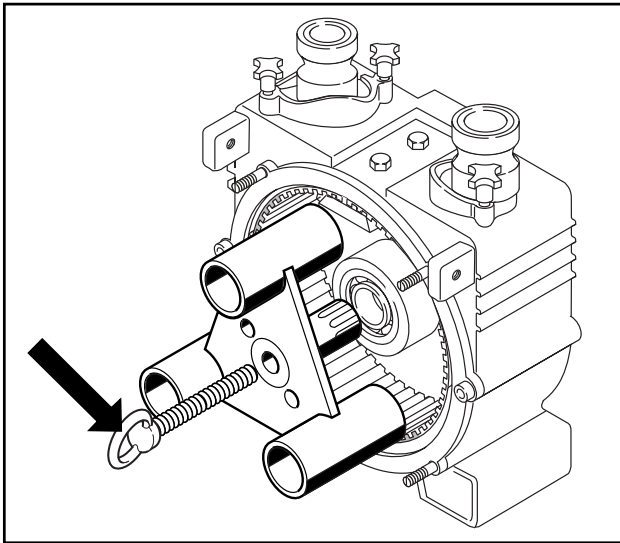

Fig. 9
6. Unscrew the rotor retaining screw (part-no. 1018, Fig. 8). If necessary force the rotor off by turning the fastening screw into the jackscrew bore M 10 (Fig. 9).